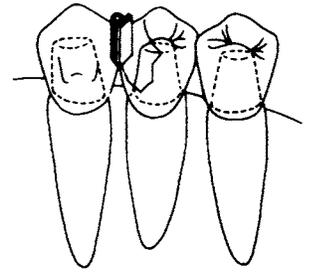

Fig. 5
- 4. The male is placed into the female, then waxed into the adjacent crown (Fig. 5). The shank of the male is removed, but it is not necessary to reduce the attachment into occlusal harmony prior to casting.